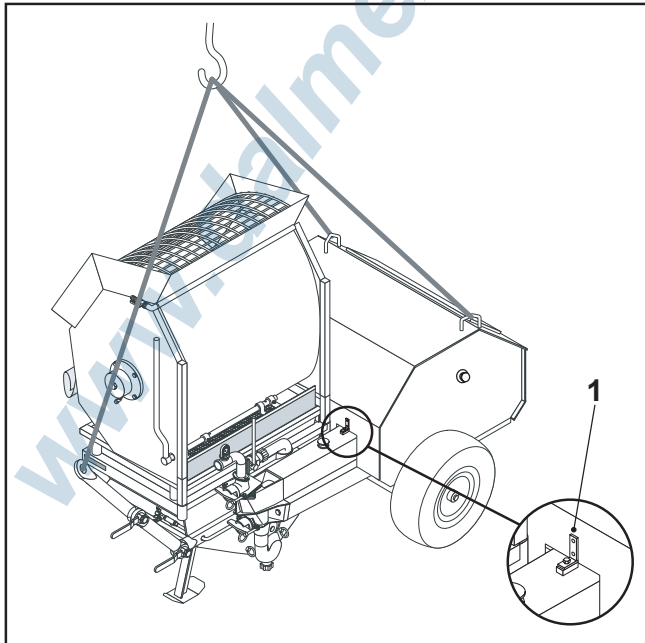

FIG.07
- Check that the bodywork is closed using the relevant hooks and the safety screw that blocks the bodywork (FIG.07-REF.1) is regularly fixed.